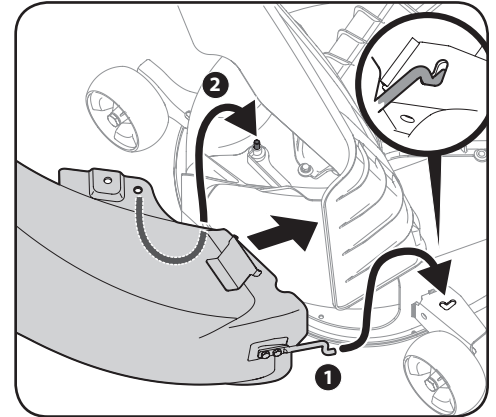

Figure 4-27
- Insert the end of the discharge chute elbow (1) into the hole provided in the deck wheel mount as shown in the inset of Figure 4-27.
- Pivot the discharge chute rearward until the hole in the discharge chute elbow aligns with the pin on the deck adapter. Move the discharge elbow down onto that pin as shown in 2 of Figure 4-27.